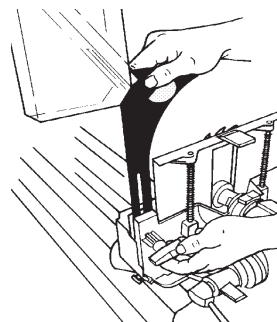

Figure C-66
- 82. Loosen the guard lock knob and insert the upper saw guard's riving knife between the guard and the lock plate, as demonstrated in Figure C-66.